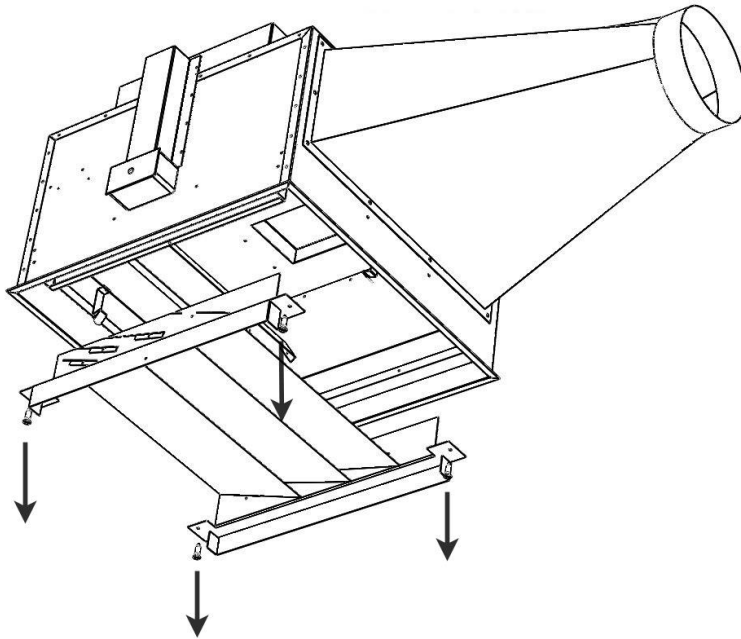

Figure 6. Remove the four screws holding the UVC Barrier in place, then slowly pull down the UVC Barrier
- a. Remove the four screws holding the UVC Barrier, then pull down the UVC Barrier (Figure 6).